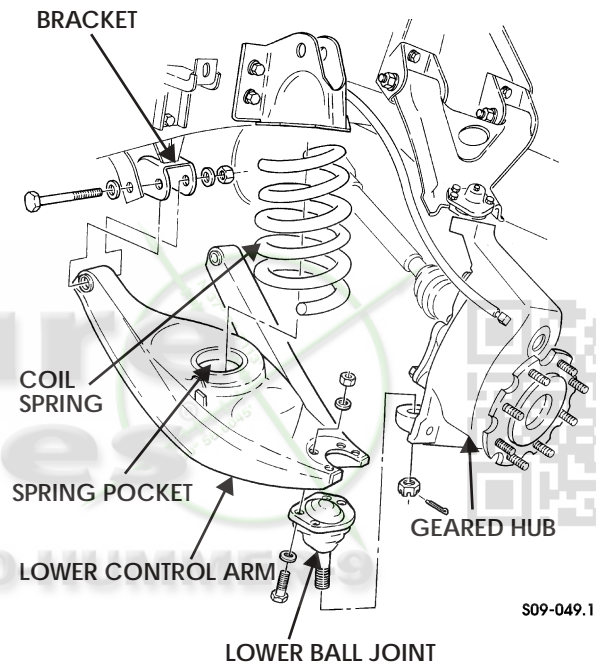

Figure 9-10: Lower Control Arm
4. Remove four locknuts, washers, capscrews, and washers from lower ball joint and lower control arm. Discard locknuts (Figure 9-10).
1. Install lower control arm on brackets with two washers, capscrews, washers, and locknuts. Do not tighten locknuts (Figure 9-10).